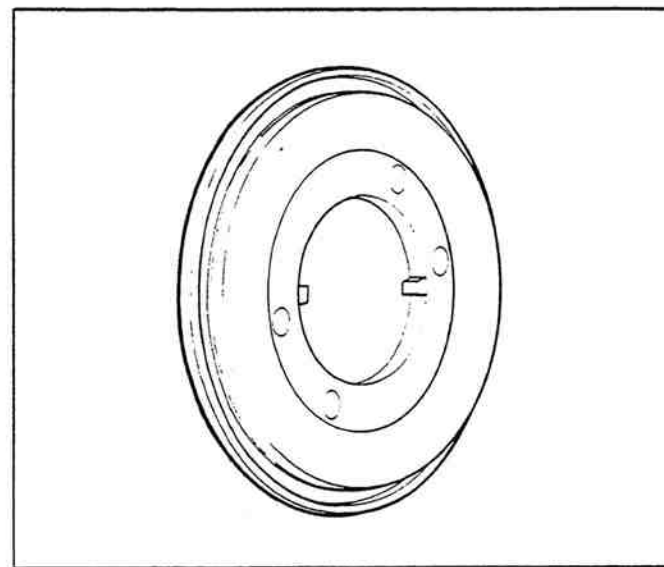

Figure 5-36. Clutch Brake.
The torque-limiting clutch brake (figure 5-36) helps lengthen the life of the transmission by aiding in smooth gear engagement at those times when the transmission gears may still be in motion even though the coach is stopped. Examples of this situation are (1) stopping at a traffic signal and immediately starting up again or (2) when shifting from first to reverse or from reverse to first gear.